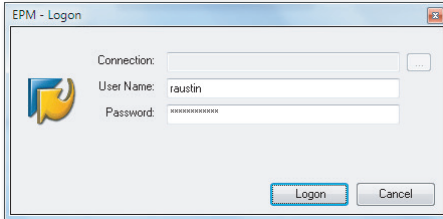

Figure 5.4 Creating a Manual Connection—Part D
- The system will open the EPM – LOGON dialog box for the user to enter the user ID and password (Figure 5.4). For this example, we are entering “raustin” as the USER NAME.